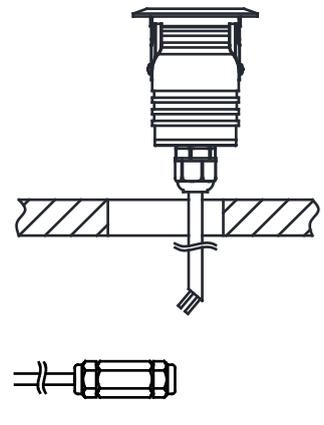

Fig 1.3
- 1.3 Connect the light fixture cable to the junction box. (See Fig 1.3)